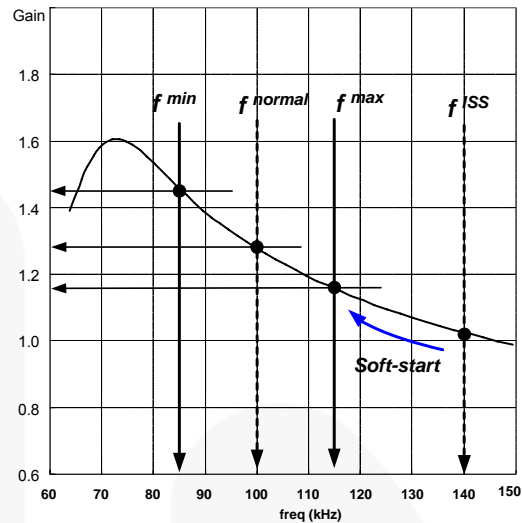
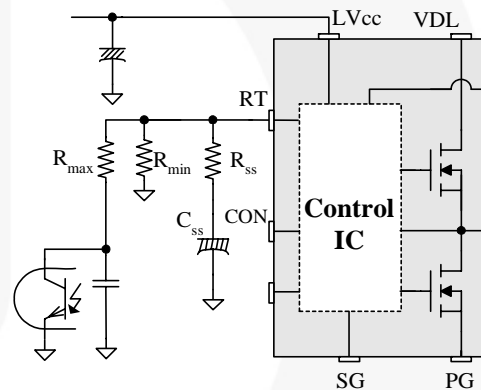
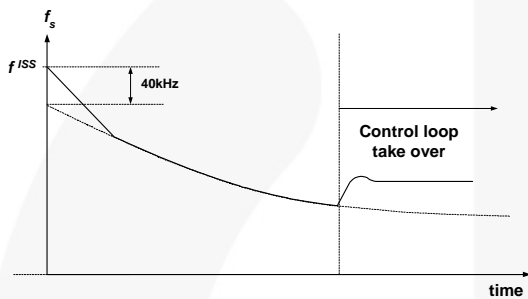

Figure 18. Resonant Converter Typical Gain Curve
Figure 19. Frequency Control Circuit
Figure 20. Frequency Sweeping of Soft-start
**3. Frequency Setting:** Figure 18 shows the typical voltage gain curve of a resonant converter, where the gain is inversely proportional to the switching frequency in the ZVS region. The output voltage can be regulated by modulating the switching frequency. Figure 19 shows the typical circuit configuration for  $R_T$  pin, where the opto-coupler transistor is connected to the  $R_T$  pin to modulate the switching frequency.
connecting R-C series network on the RT pin, as shown in Figure 19. FSFR-series also has an internal soft-start for 3ms to reduce the current overshoot during the initial cycles, which adds 40kHz to the initial frequency of the external soft-start circuit, as shown in Figure 20. The initial frequency of the soft-start is given as: